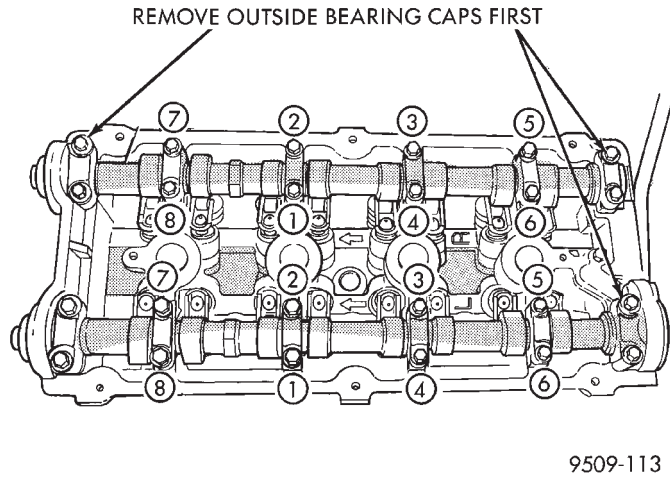

Fig. 28 Camshaft Bearing Cap— Removal
- (4) Loosen the camshaft bearing cap attaching fasteners in sequence shown (Fig. 28) one camshaft at a time.